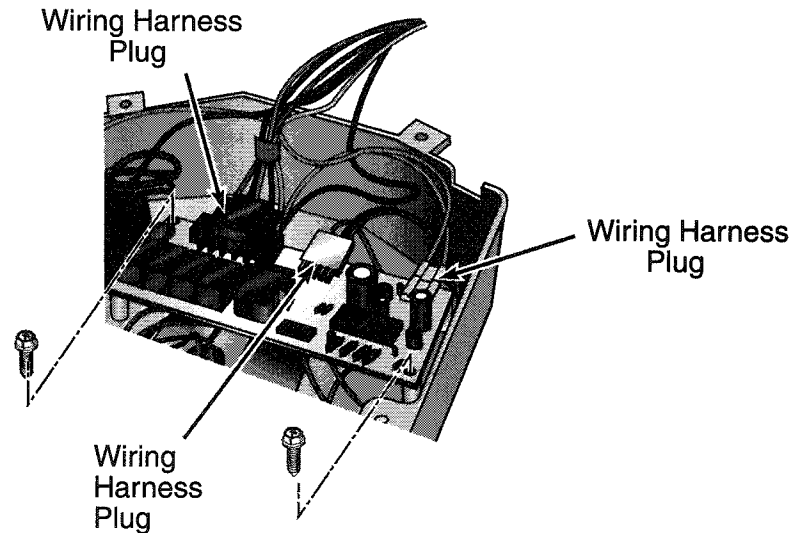

Fig. 3-9
1. With the control box in the service position, disconnect the three (3) wiring harness plugs from the connectors on the electronic control board. (Fig. 3-9)
2. Remove the two (2) Hex-Head screws securing the electronic control board to the mounting stubs in the control box. (Fig. 3-9)